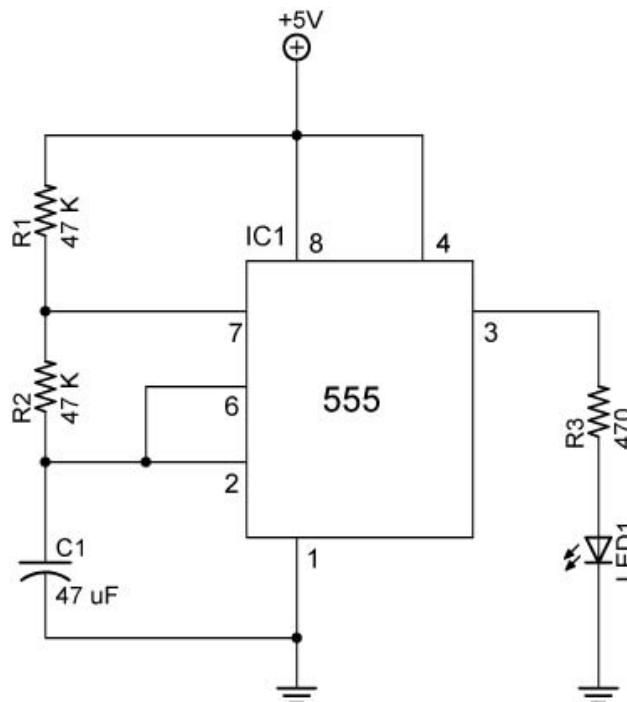

Figure 30 – 13 Basic Astable Circuit
- When charging C1, the current must pass through R1, R2, and C1. See Figure 30 – 14.